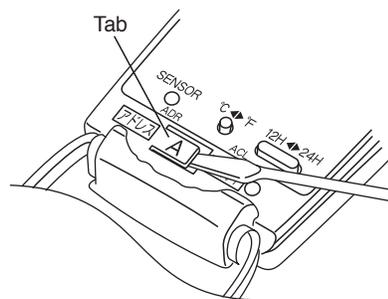
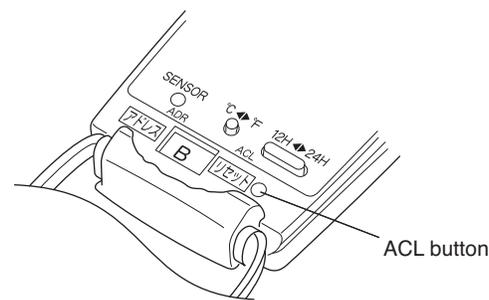

Fig. 62
Fig. 63
- (1) Switch on the power source.
- (2) Break the address-setting tab marked "A" on the second remote controller to change the address (Fig. 62). When the tab is removed, the address is automatically set to B (Fig. 63).
- (3) Press and hold the remote controller QUIET button and 1HR. TIMER button. Then, press and hold the ACL (Reset) button with a pointed object such as the tip of a pen. After 5 seconds, release the ACL button first, then release the QUIET and 1HR. TIMER buttons. "oP-1" (Test Run) appears, blinking in the remote controller clock display area.
- (4) Each time the 1HR. TIMER button is pressed, the display changes as shown below. Press this button 2 times to change the display to "oP-7" (Address setting).